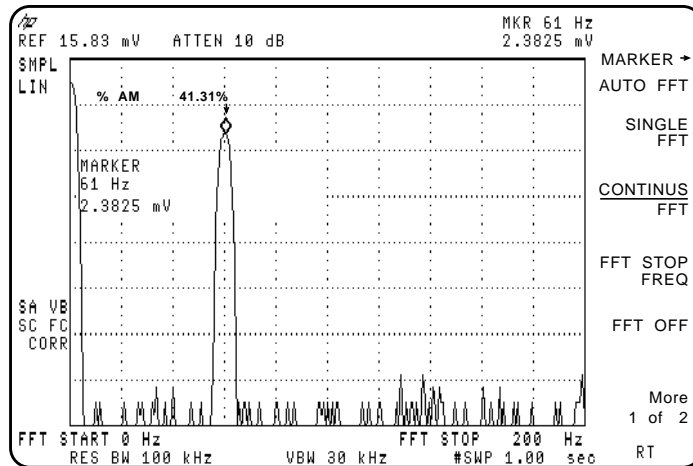

Figure 50 Percent Amplitude Modulation Measurement
- Press **(MEAS/USER)** and **% AM ON OFF** so that ON is underlined. The spectrum analyzer reads out the percent AM of the largest modulation frequency. An arrow indicates the signal being measured. See Figure 50. This measurement does not include all of the harmonics of the modulating signal.
- 7 Press **MEAS/USER** and **% AM ON OFF** so that ON is underlined. The spectrum analyzer reads out the percent AM of the largest modulation frequency. An arrow indicates the signal being measured. See Figure 50 on page 105. This measurement does not include all of the harmonics of the modulating signal.